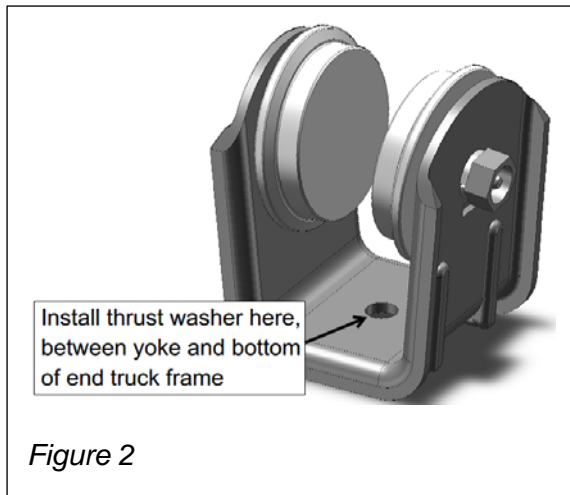
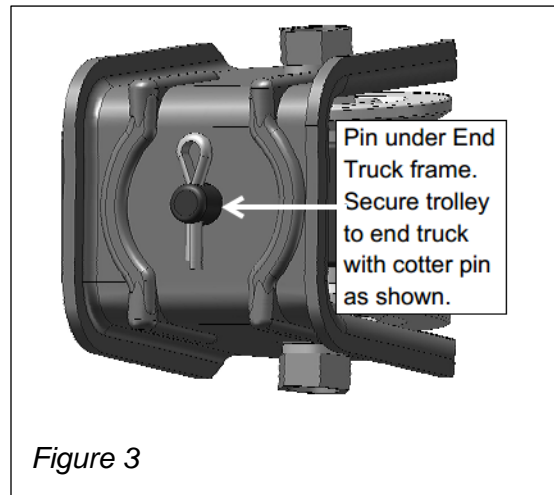

Figure 2
Figure 3
A. Remove trolleys from end trucks (if shipped mounted) and place on runway rail. Check crane or layout drawings for any notes about crane orientation or trolley positions. Remove Restraining Lugs. Lift crane into position and reassemble trolleys onto end truck from each end. Verify that Thrust Washer is in place on each trolley (see Fig. 2). Secure with cotter pin (see Fig. 3). Reassemble restraining lugs.